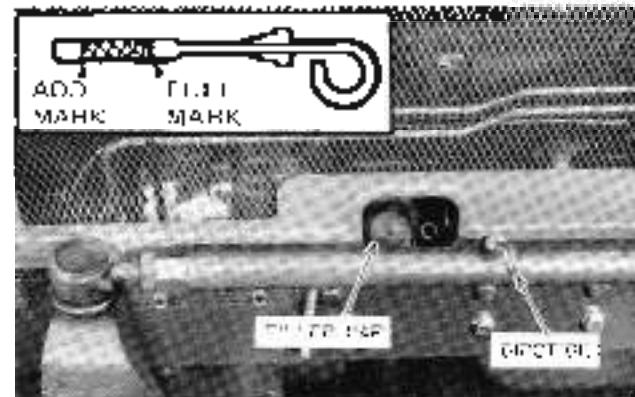
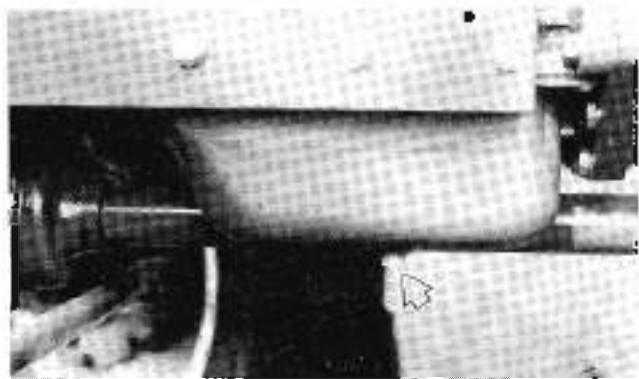

Figure 35 - Engine Oil Level Dipstick and Filler Cap
Figure 36 - Engine Oil Drain Plug
1. WARM THE ENGINE TO 80°, BUT AT NORMAL OPERATING TEMPERATURE. DRAIN THE ENGINE OIL BY FOLLOWING THE PROCEDURE IN FIGURE 36. REACTIVATE THE FILTER AFTER THE OIL HAS BEEN DRAINED, AS INDICATED IN
1. WITH THE TRAILER STANDING LEVEL, AND OVER THE GROUND AS SHOWN IN FIGURE 35, CHECK THE OIL LEVEL WITH THE DIPSTICK. FIGURE 36